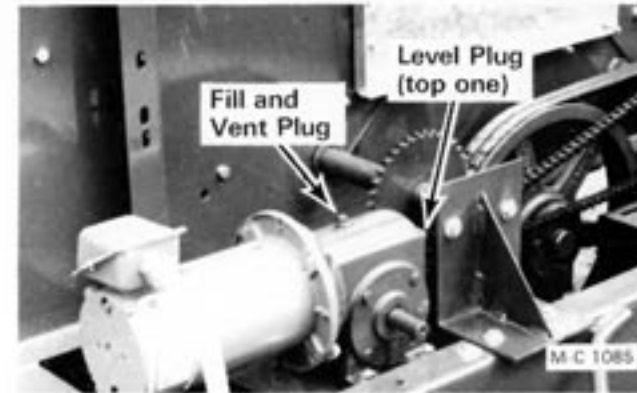

Figure 30
1. Remove the oil level plug (top one) on the end of the SCR drive gear box, see Figure 30. The oil level should be even with the bottom of the hole. If not, remove the vent plug on top of the gear box and add Mobil SHC 634 oil or equivalent until it just runs out. Install the level and vent plug.